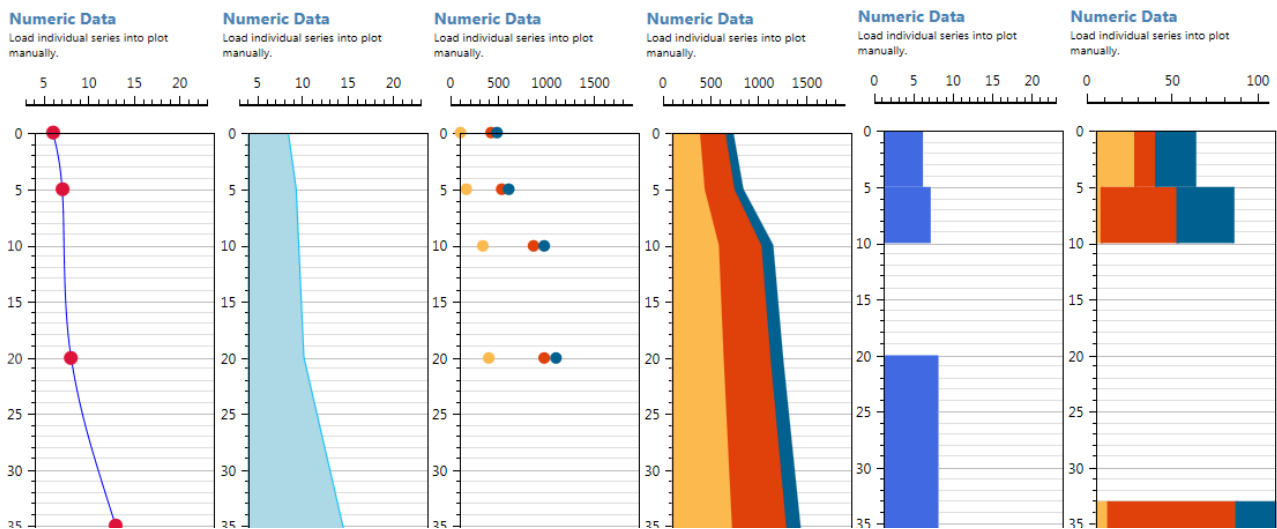

Fig. 129: Examples of different numerical data types display, using various types of series.
Press **Apply** and a new data series for your settings is added to the graph. Various types of numerical data from several wells can be displayed in one object. Examples of the different series types that can be displayed in your graph are shown in Figure 129.
Figure 129 show that you can display data in your graph in variable forms and with a variety of visual settings. Your variable series **can be combined** to create any chart you want. The example in Figure 130 provides a graph with three series types; (1) stacked columns of variable height, (2) a partly transparent area series and (3) a point series.